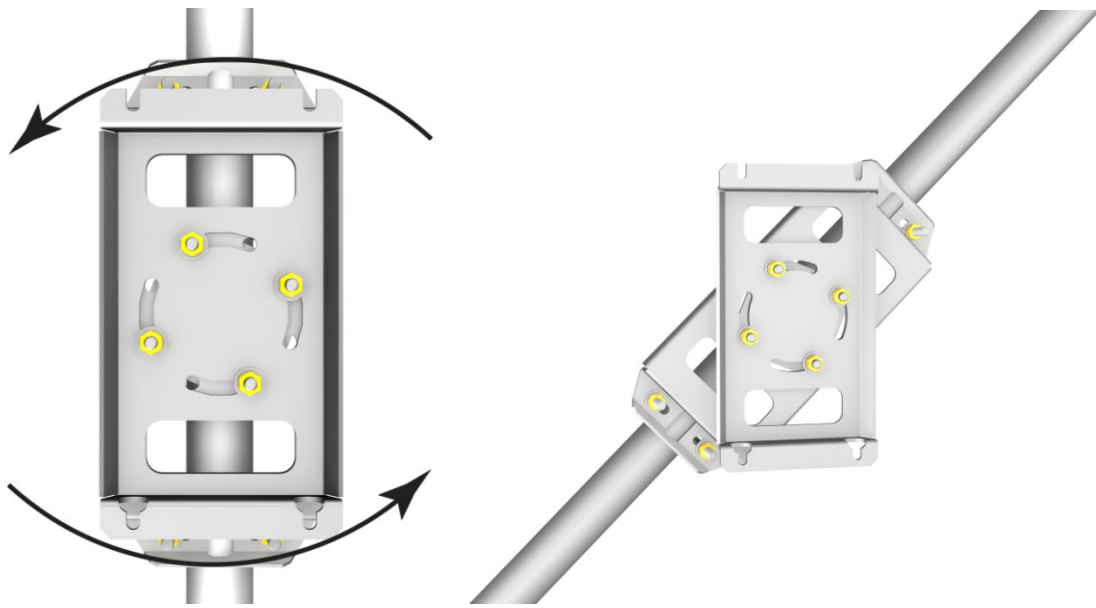
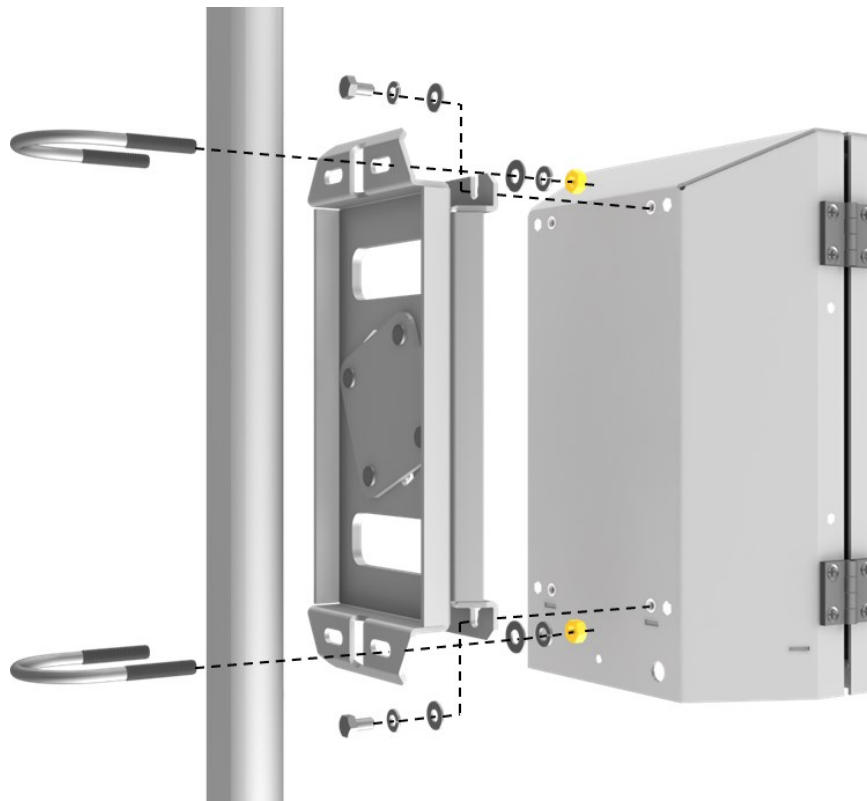

Figure 6-2. EC100 enclosure mounting bracket mounted on a vertical mast (left) and a tripod leg (right)
Figure 6-3. Exploded view of mounting the EC100 enclosure
7. Attach the EC100 enclosure to the mast, tripod leg, or other part of the mounting structure. To do this, attach the EC100 enclosure mounting bracket to the pipe by loosely tightening the u-bolts around the pipe. The u-bolts are found in the mesh pocket inside the EC100 enclosure. If the pipe does not run vertically (for example, if the enclosure is being attached to a leg of a tripod), rotate the bracket to the side of the pipe. The enclosure must hang upright. Make angle adjustments as needed by loosening the four nuts and rotating the bracket plates relative to one another. If the necessary angle cannot be achieved in the given orientation, the four nuts may be removed and the top plate indexed by 90° to allow the bracket to travel in the other direction (see Figure 6-2 [p. 15]). Once adjusted, tighten all the nuts. Finally, attach the EC100 enclosure to the bracket by loosening the bolts on the back of the enclosure, hanging the enclosure on the mounting bracket (it should slide into place and be able to securely hang from the bracket), and tightening the bolts (see Figure 6-3 [p. 15]).